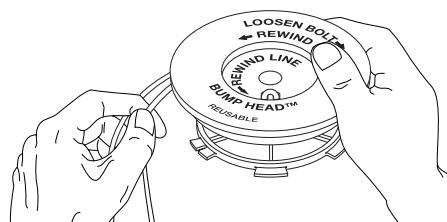

Fig. 32
7. Wind the lines in tight even layers, onto the reel (Fig. 32). Wind the line in the direction indicated on the inner reel. Place your index finger between the two lines to stop the lines from overlapping. Do not overlap the ends of the line. Proceed to step 11.